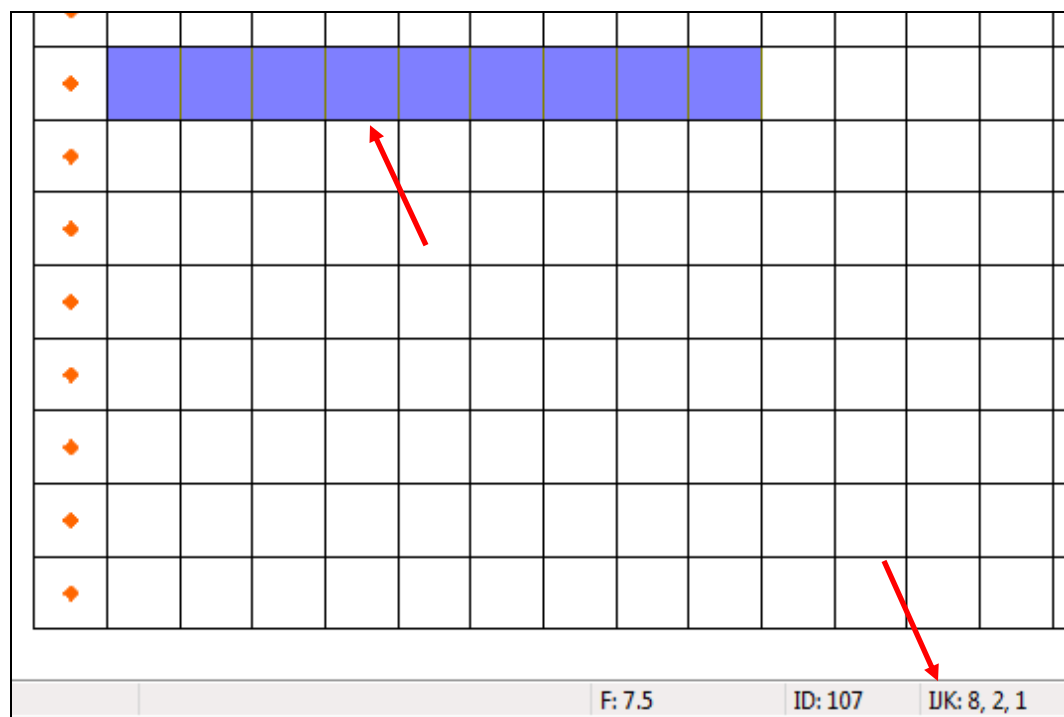

Figure 5 Cells to be selected (top) and IJK indices of cell under cursor (bottom)
Notice that as the cursor moves across the grid, the *IJK* indices of the cell beneath the cursor are displayed in the *Edit Window* at the bottom of the screen (Figure 5, bottom).
- Using the **Select Cells**  tool while holding down the *Shift* key, draw a box selecting cells 2-10 on row 8 (Figure 5, top). The first cell will indicate “IJK: 8,2,1”, meaning “row 8, cell 2, layer 1” (Figure 5, bottom).